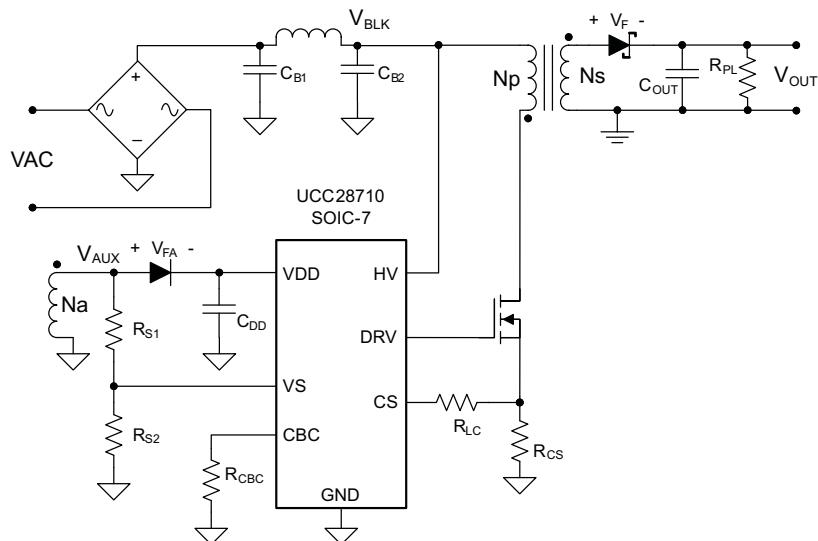

Figure 20. Design Procedure Application Example
The UCC2871x family of flyback power supply controllers provides constant voltage (CV) and constant current (CC) output regulation to help meet USB-compliant adaptors and charger requirements. These devices use the information obtained from auxiliary winding sensing (VS) to control the output voltage and do not require optocoupler/TL431 feedback circuitry. Eliminating the optocoupler feedback reduces component count and makes the design more cost effective. Refer to Figure 20 for details.
The procedure in the *Detailed Design Procedure* section outlines the steps to design a constant-voltage, constant-current flyback converter using the UCC2871x family of controllers. Refer to the typical application schematic for component location (Figure 20) and the **器件命名规则** section for variable definitions.